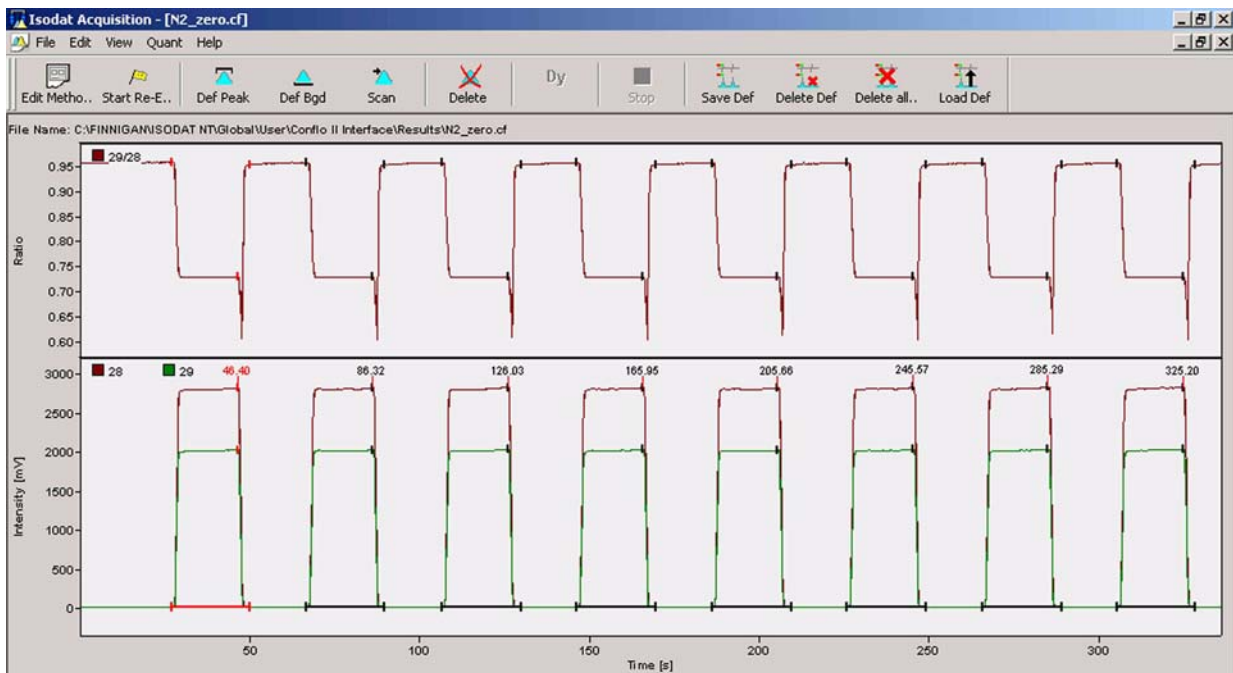

Figure 4-8. Zero Enrichment of Nitrogen - Chromatogram
- Recognize the eight on-off pulses shown above in the expected chromatogram (Figure 4-8).